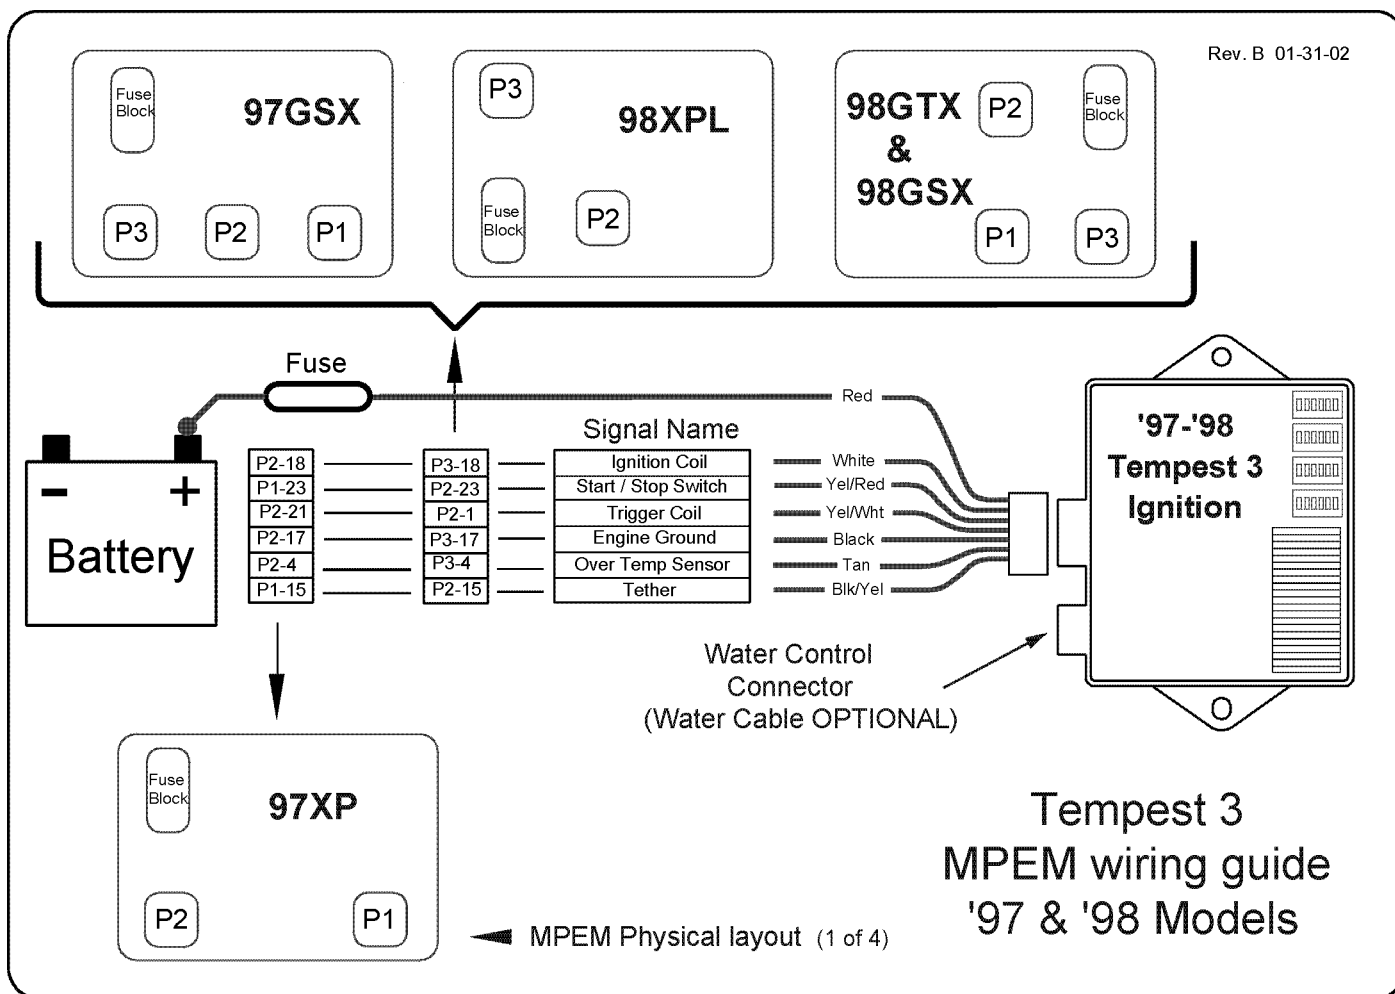

Figure 1
1. With the help of the "Wiring Guide" in Figure 1, locate the model of your boat from the chart.
3. The picture of your MPEM points to a chart of numbers in the center of Figure 1. The chart indicates where each wire from the Tempest Ignition attaches to your MPEM. Example: For a 98XP-L, the Violet wire attaches to Connector P2, pin # 2.
3. Referring to the Wiring Chart in Figure 1, determine which wires on the Tempest 3 Ignition attach to this connector.